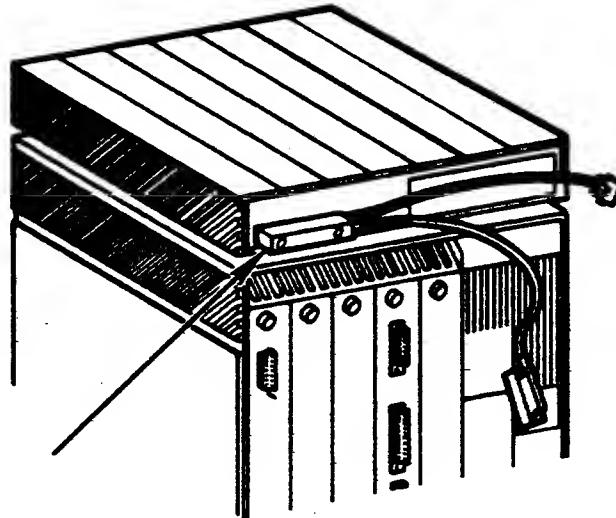

Figure 2-20. Connecting Cable to Floppy Disk Drive
3. Connect the appropriate end of floppy disk drive cable to the floppy disk drive, as shown in Figure 2-20 (remove tie-wrap if necessary).